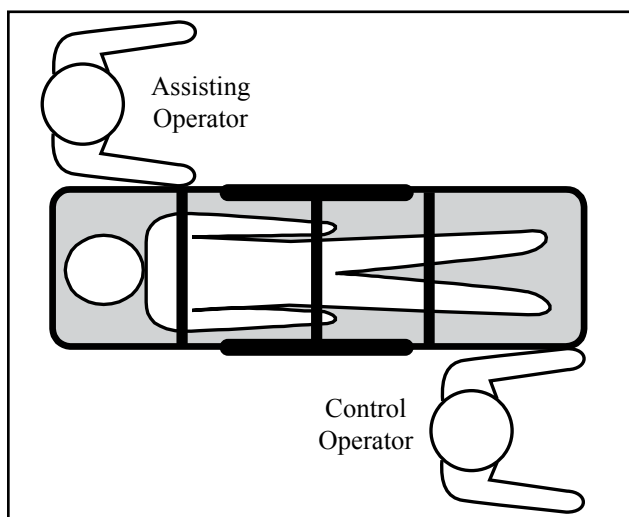

Figure 22 - Typical Operator Placement When Rolling the Cot
- Control Operator:** Position yourself at the foot end of the cot, grasp the main frame, and pull or push the cot (Figure 22).
- Assisting Operator:** Position yourself at either the head-end of the cot (grasping the drop frame) or at the side of the cot near the patient's torso (grasping the main frame, Figure 22). Attend the patient and assist in rolling and steering the cot.